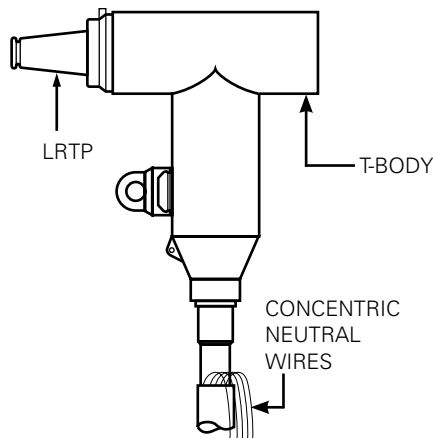

Figure 14. Line illustration of completed L RTP installation T-OP II T-body
- See Figure 14 for illustration of completed L RTP installation.